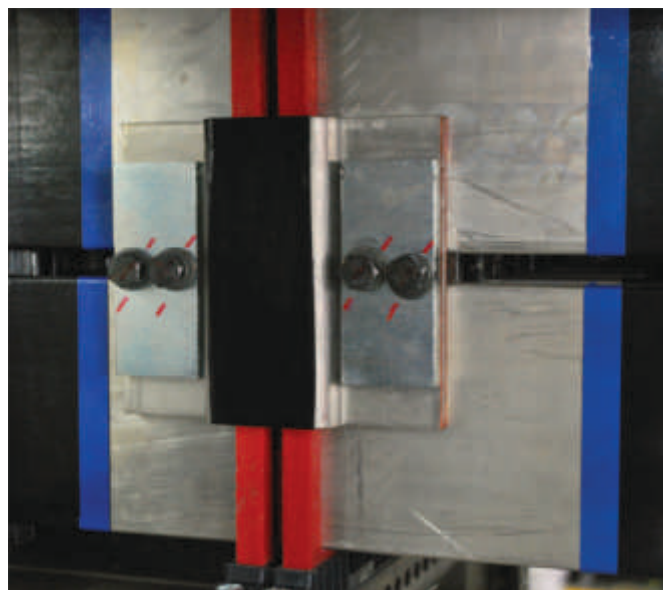

Figure 18 - Busbar joining
6. Tighten all electrical connections with a torque wrench to the torque values as mentioned in table no. 3 Figure18.